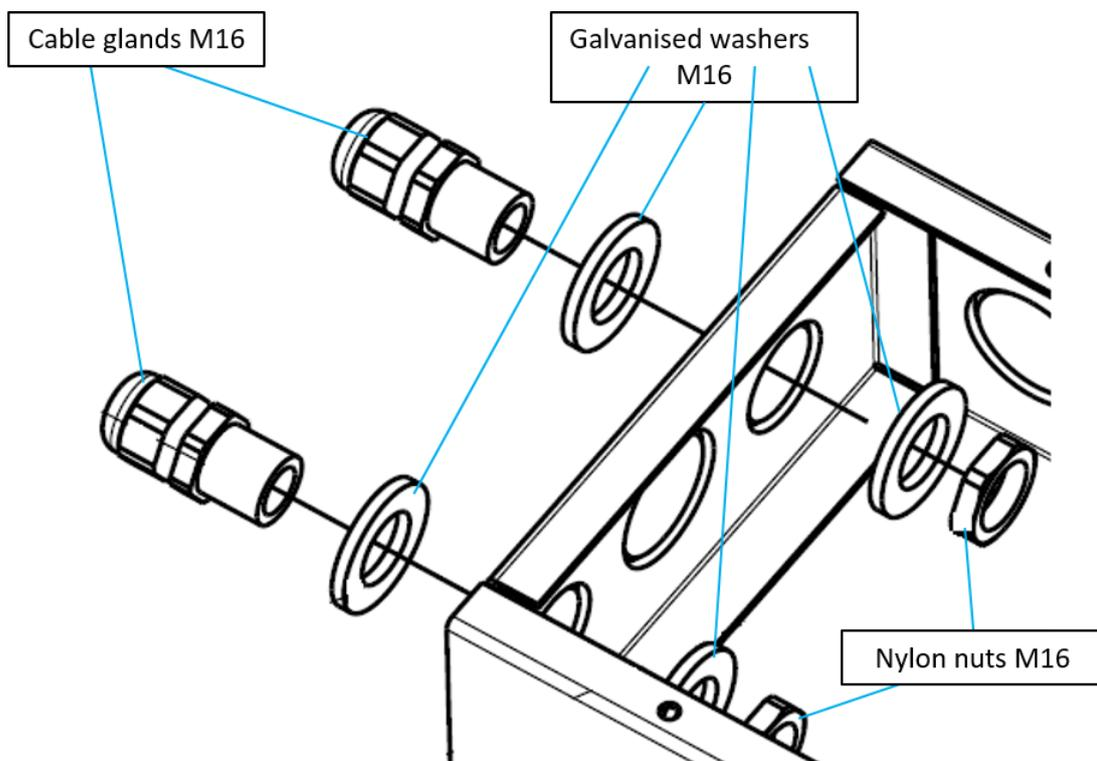

Fig. 23
- C. Fasten the cable gland to the junction box as shown in Figure 23.